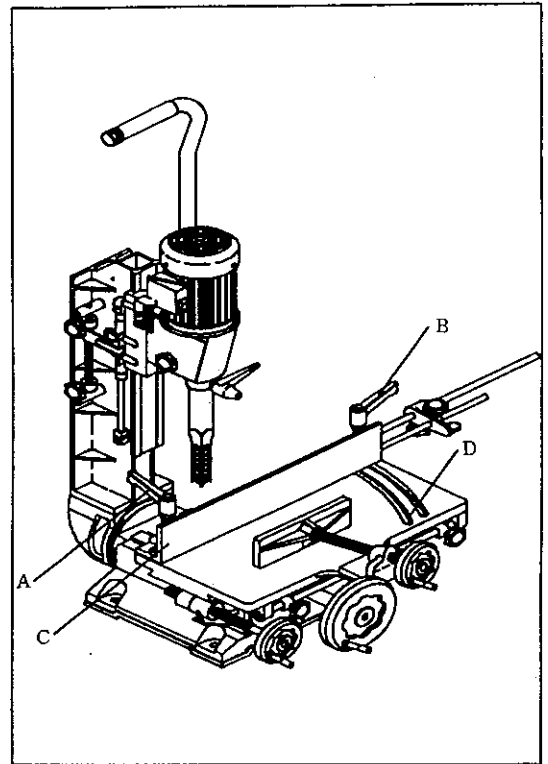

Fig.9
1. Loosen lock knob (A) and (B). (Fig.9)
2. Point the scale (D) to adjust fence (C) to the desired angle $0^{\circ} - 30^{\circ}$.
3. Tighten lock knob (A) and (B).